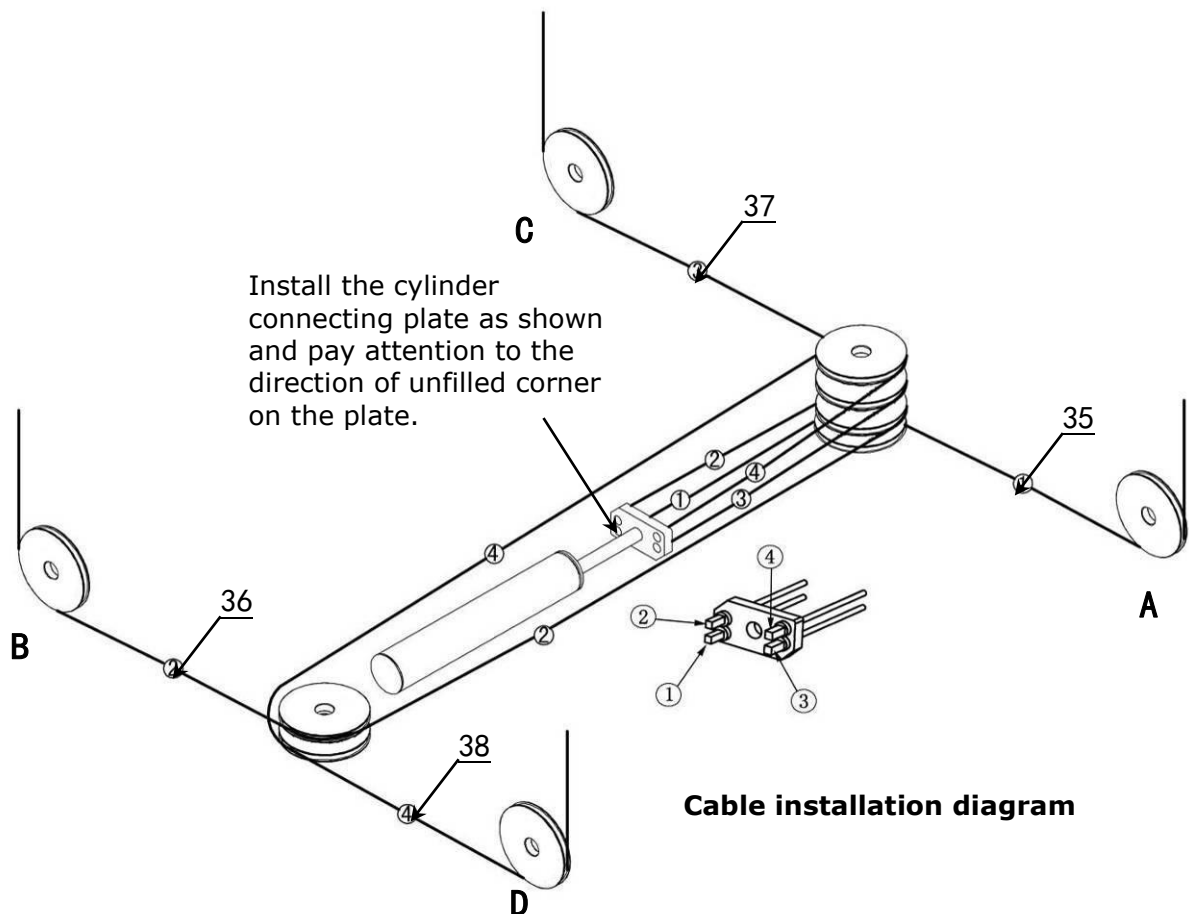

Fig. 19
1. Pass through the cables from the platform to the columns according to the number of the cables (**See Fig. 19**).